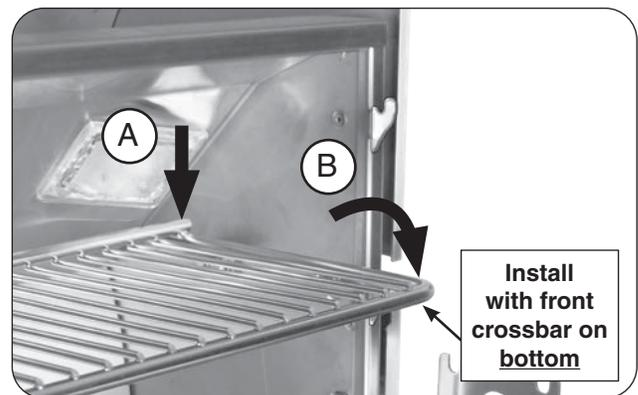

Fig. 24-3 Place warming rack for use
2. With the warming rack oriented as shown, carefully rest the rear of the rack onto the rear support plates (see Fig. 24-3, A), then lower the warming rack arms onto the lower hooks for use (see Fig. 24-3, B).